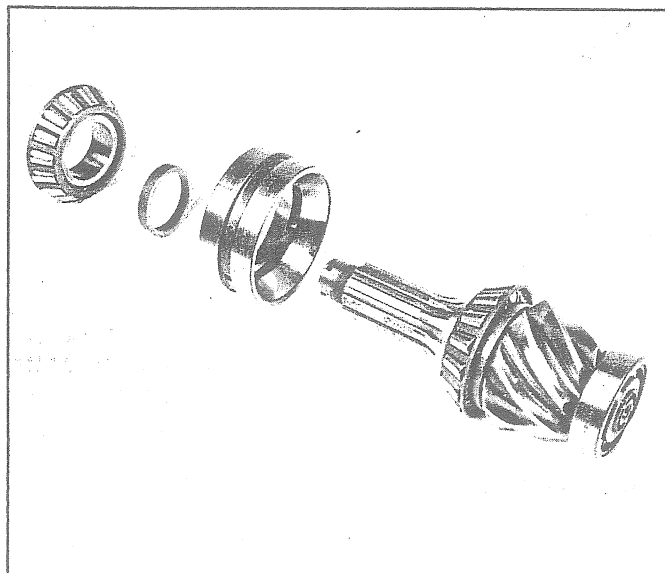

Fig. 113 - Pinion Shaft and Bearings
- a. Press inner bearing cone onto pinion shaft. See Fig. 113.